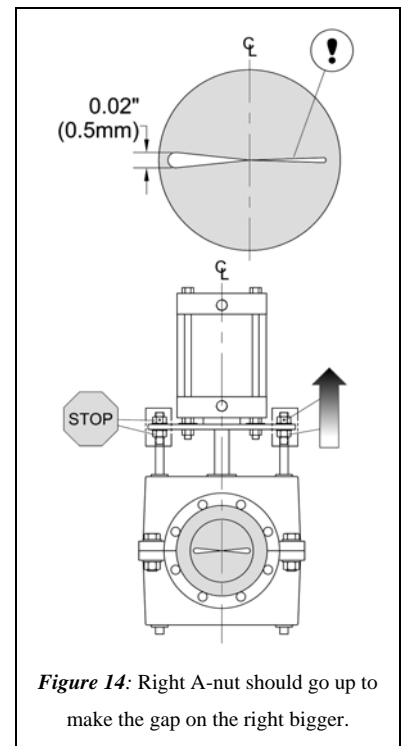

Figure 14: Right A-nut should go up to make the gap on the right bigger.
- to make the gap bigger, the A-nut should go UP (Fig. 14)